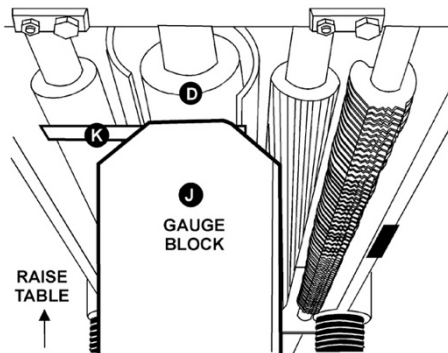

Figure 21
3. Place the gauge block (J, Figure 21) on the table directly underneath the cutterhead (D, Figure 21). Using a 0.028" (0.7mm) feeler gauge (K, Figure 21) placed on top of the gauge block, raise the working table until the knife inserts just touch the feeler gauge when the knife inserts are at their lowest point. Do not move the working table any further until the outfeed roller is adjusted.